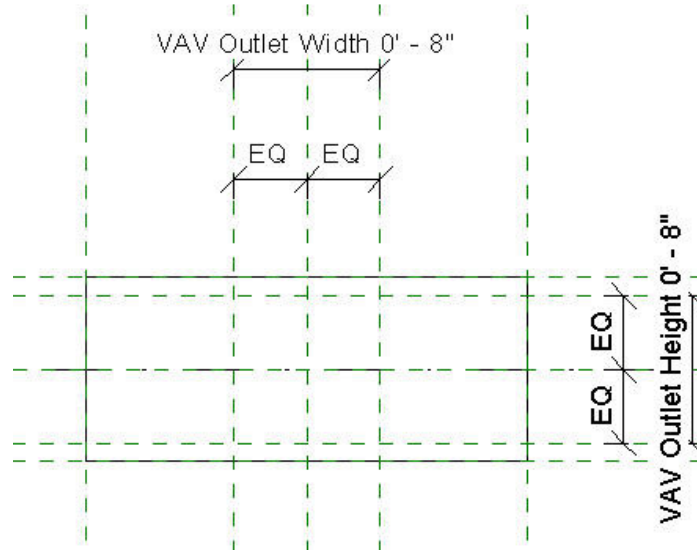

Figure 28. The *VAV Outlet Width* and *VAV Outlet Height* parameters assigned to the dimensions.
3. Assign the *VAV Outlet Width* and *VAV Outlet Height* parameters to the dimensions as shown in Figure 28. Remember that these are *Shared parameters*. Group them under *Dimensions*.